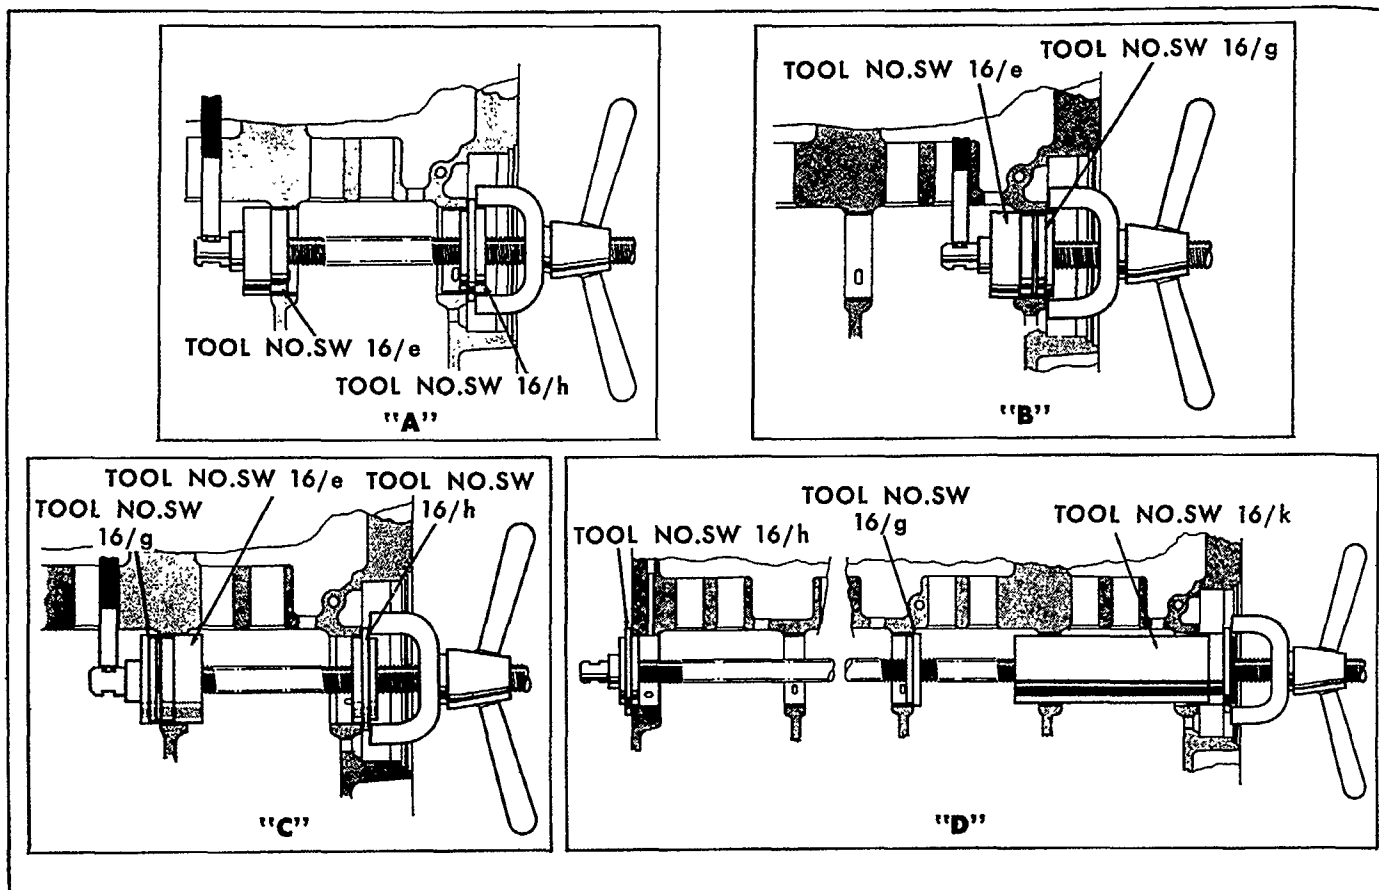

Figure 78
1. Insert the small diameter spigot of the remover and guide, SW 16/e, into the rear of Number 2 bearing liner as shown in "A", Figure 78. Position the centralizer, SW 16/h, in front of Number 1 bearing with the smaller diameter spigot located in the bearing liner. Pass the center screw of main tool No. SW 16 through this centralizer and the guide and fit "C" washer to the end of the center screw. Place the tommy bar in the hole
3. Insert the smaller diameter spigot of the remover and guide, SW 16/e, in the rear of the front bearing liner, and the intermediate bearing replacer, SW 16/g, in the front of the front bearing liner as shown in "B", Figure 78. Install the center screw, lock washer and tommy bar as outlined above and pull out the front bearing liner from its location in the block.
1. Insert the remover and guide, SW 16/e, into Number 2 bearing bore with the smaller diameter towards the rear of the block. Place the centralizer, SW 16/h, in the front of Number 1 bearing bore with the larger diameter spigot located in the bore. Locate the new bearing liner on the smaller diameter spigot of the remover and guide and insert the smaller diameter spigot of the intermediate bearing replacer, SW 16/g, into the other side of the liner. Insert the center screw and install the lock washer and tommy bar as shown in "C", Figure 78.
center screw and lock washer as shown in "D", Figure 78. Make sure the main tool body is placed vertically for this operation so that the center screw is kept central by the body locating on the spigot of the mandrel.